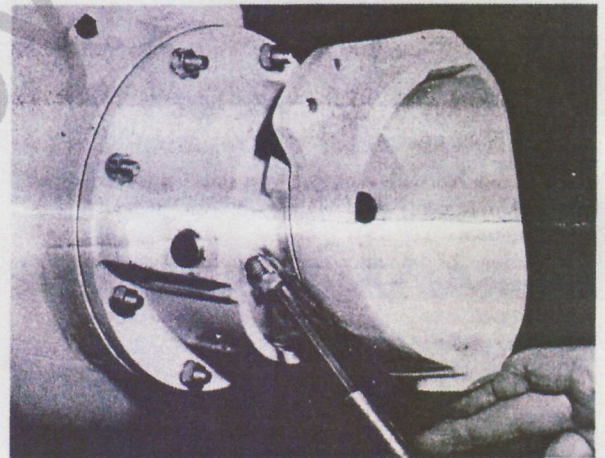

Figure 1
- 1 Install one Nylon bearing (1) in each nozzle housing (bowl) bore, flange end inward. Hold the adapter body (2) in place and slide a short horizontal shaft (3) through each nozzle housing bore. Apply Loctite to the threads of two 5/16"-18 x 1" socket head capscrews (4) and secure the adapter body in place (Figure 1).